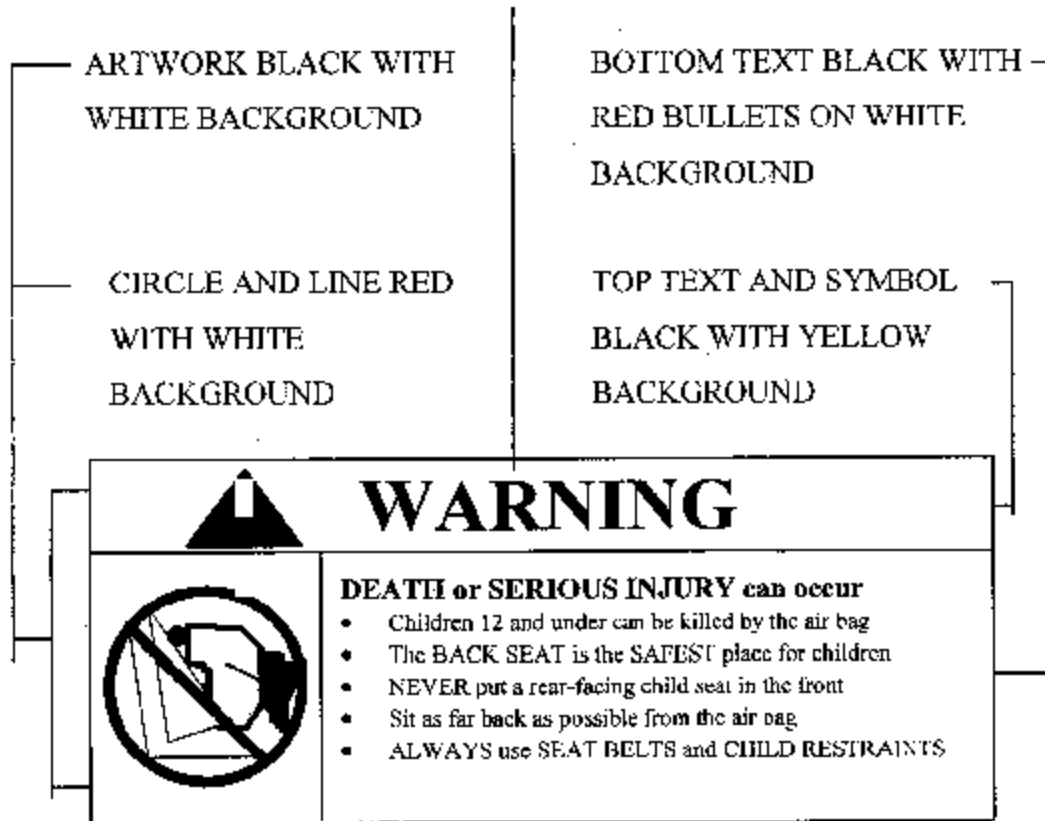

Figure 6a
- 4.2 Does the label conform in content (vehicles without back seats may omit the statement: "The BACK SEAT is the SAFEST place for children.") (S4.5.1(b)(2)(v)) to the label shown in either Figure 6a or 6b as appropriate at each front outboard seating position with an air bag? (S4.5.1(b)(2))
- 4.2.2.1 Does the label conform on content to the label shown in either Figure 6a or 6b as appropriate?
- 4.2.2.2 Does the label conform in content to the label shown in Figure 6a where the label can be modified to omit the pictogram and the message may read: